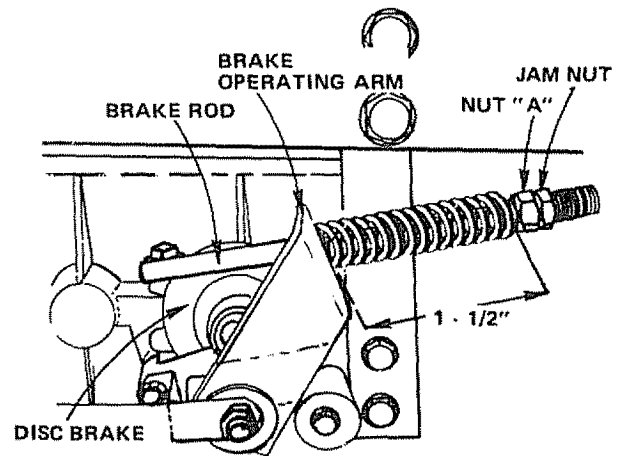

FIGURE 27
This tractor is equipped with an adjustable brake system mounted on the right side of the transaxle (Fig. 27).
- If distance is other than 1 - 1/2", loosen Jam Nut (Fig. 27) and turn Nut "A" until distance becomes 1 - 1/2". Retighten Jam Nut against Nut "A".